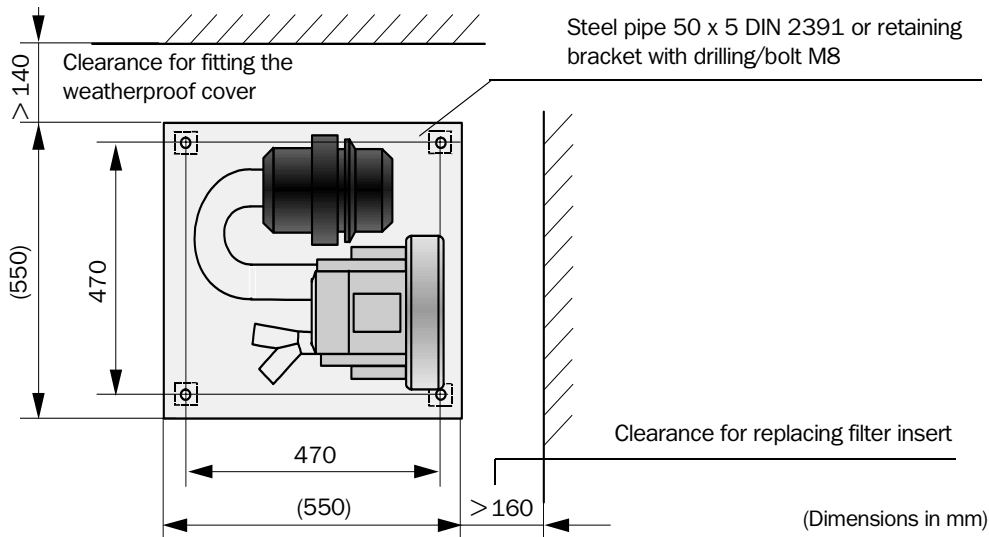
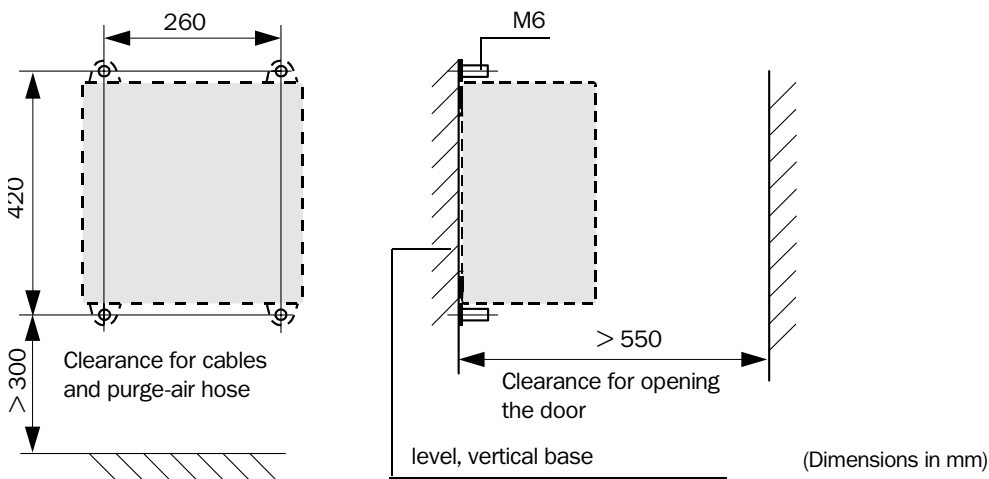

Fig. 3.5: Mounting dimensions for purge-air unit with fan type 2BH1300
Fig. 3.6: Mounting dimensions for the purge-air unit in connection box
The respective component must be mounted according to **Fig. 3.5** or **Fig. 3.6** at a location with air as clean as possible. If necessary, lay an intake hose or pipe at a location where the conditions are more favorable. In addition, take the following points into account:
- The clearances according to **Fig. 3.5** or **Fig. 3.6** have to be observed.